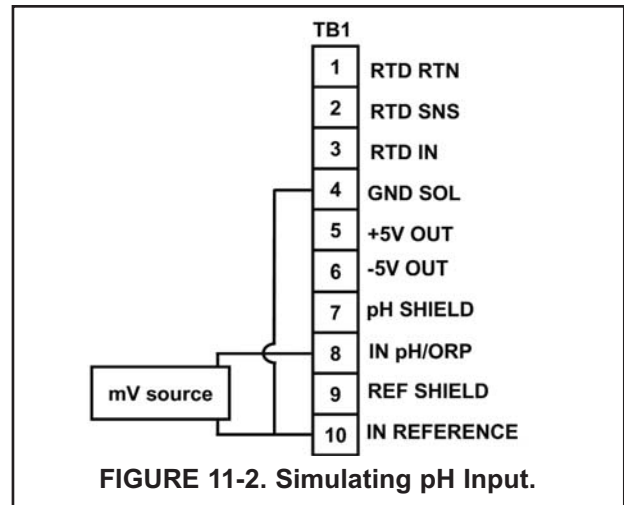

FIGURE 11-2. Simulating pH Input.
4. If a standard millivolt source is available, disconnect the jumper wire between IN REFERENCE and IN pH and connect the voltage source as shown in Figure 11-2. Be sure to jumper the IN REFERENCE and GND SOL terminals.